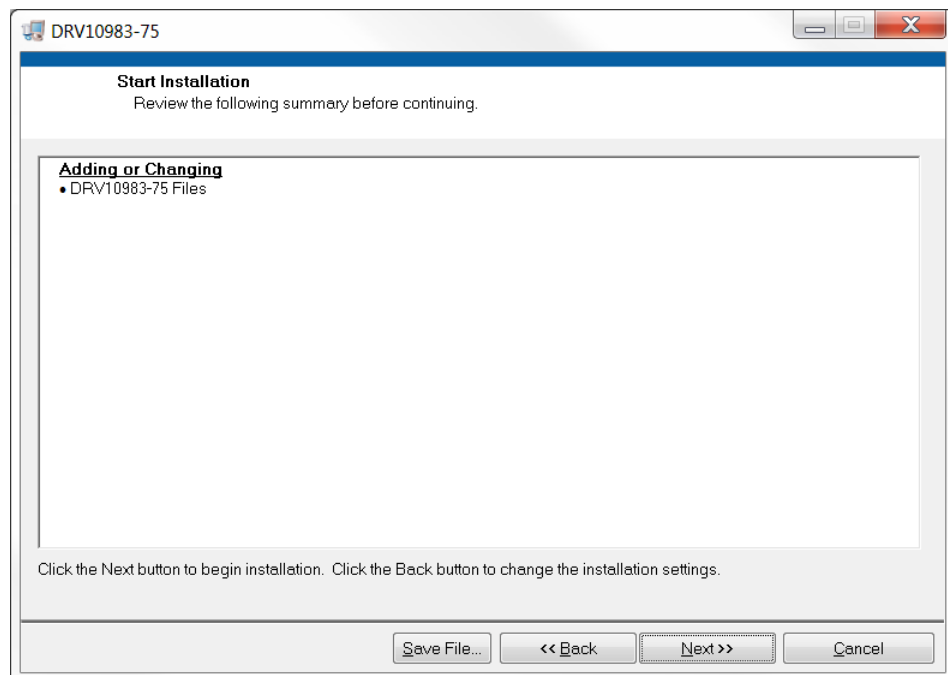

Figure 14. GUI Start Installation
3. The screen shown in Figure 14 appears. Click *Next >>* to begin installation.